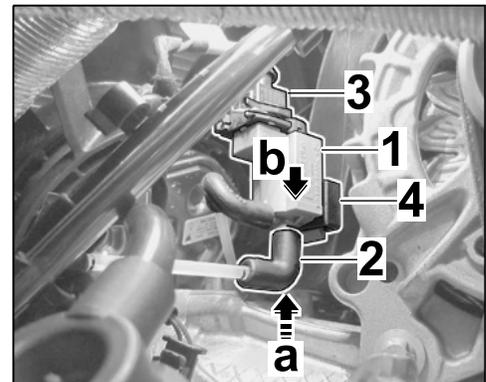

Figure 24
- 3.6.4 Push change-over valve ⇒ *Figure 24-1*- into the holder ⇒ *Figure 24-4*- (⇒ *Figure 24-b*-).
Fit angled pipe ⇒ *Figure 24-2*- on change-over valve ⇒ *Figure 24-a*-.